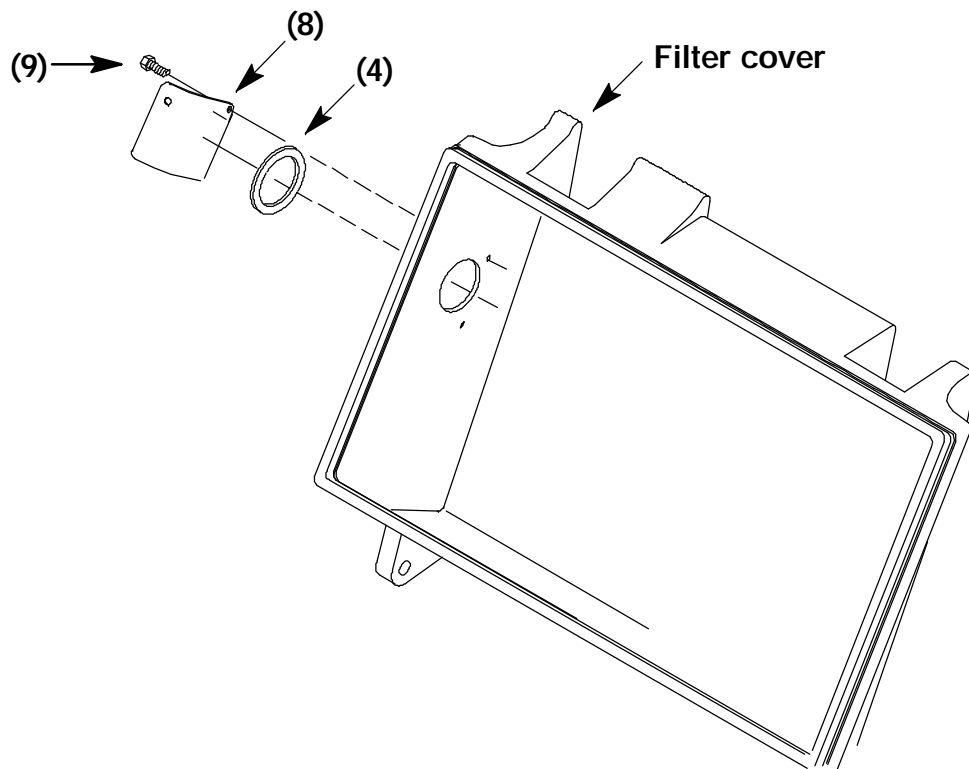

FIG. 3 Flange Cover Assembly
15. Install the flange cover (8) and seal (4) over the hole in the filter cover using the screws supplied (9). (Refer to FIG. 3)